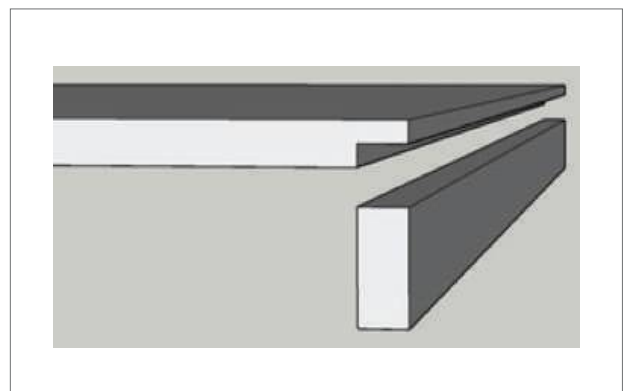

Fig.5
- Drop edges can sometimes be applied on edge, primarily for deeper downturns. The best way to achieve this detail is to first rebate the underside of the sheet to a depth of approx. 1-2 mm (Fig. 5).
- As you would normally do, sand both the internal edges of the rebate and the corresponding edges of the downturn with 150/180 grit paper, cleaned with denatured alcohol and with a white cloth (Fig. 5).
Ensure that beads of adhesive are formed at both the internal and external edge of the joint (Fig.5).